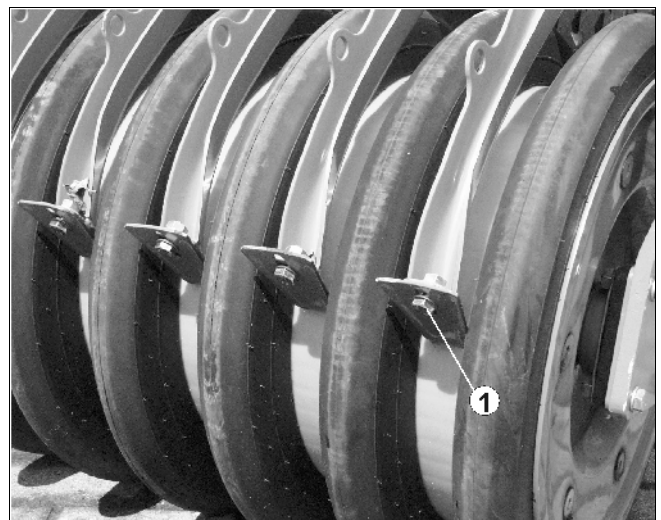

Fig. 23
- slacken bolted connections (Fig. 23/1),